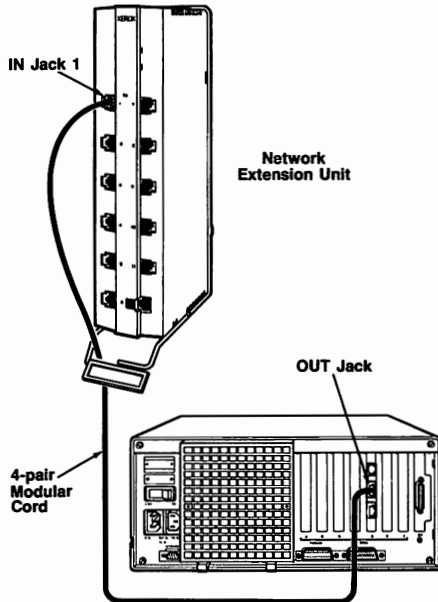

Figure 2-10. Connecting the workstation to an NEU
- If you are connecting your workstation to an NEU that has already been installed, plug the other end of the cord into the first unused IN jack on the NEU. Start with the IN jack labeled 1 (Fig. 2-10).